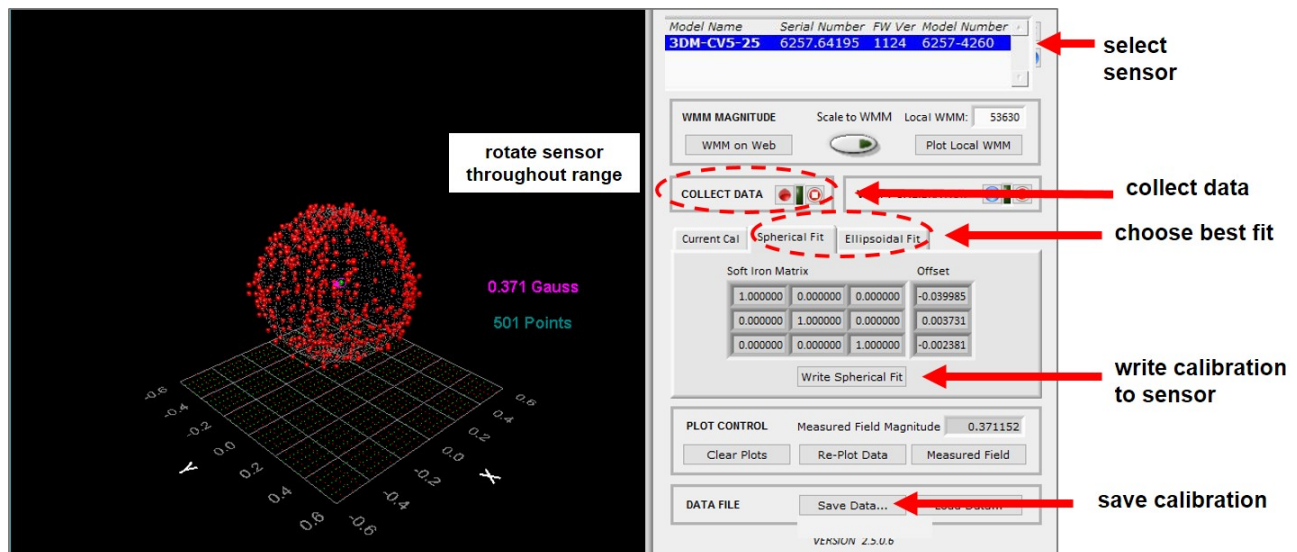

Figure 27 -Collect Calibration Data
6. Click the Spherical Fit or Ellipsoid Fit button, depending on the application (*Figure 27 - Collect Calibration Data*). Spherical Fit is often best for applications with calibration rotations restricted to a 2D plane: for example, a ground vehicle or a boat, because it will not likely not be rotated on all three axis. Ellipsoid Fit is generally a better correction when soft iron effects are present but only if enough data points can be collected in all quadrants. If the range of motion is restricted in one dimension, the Spherical Fit may be the best choice. If there are enough points in all dimensions, the Ellipsoid Fit may be